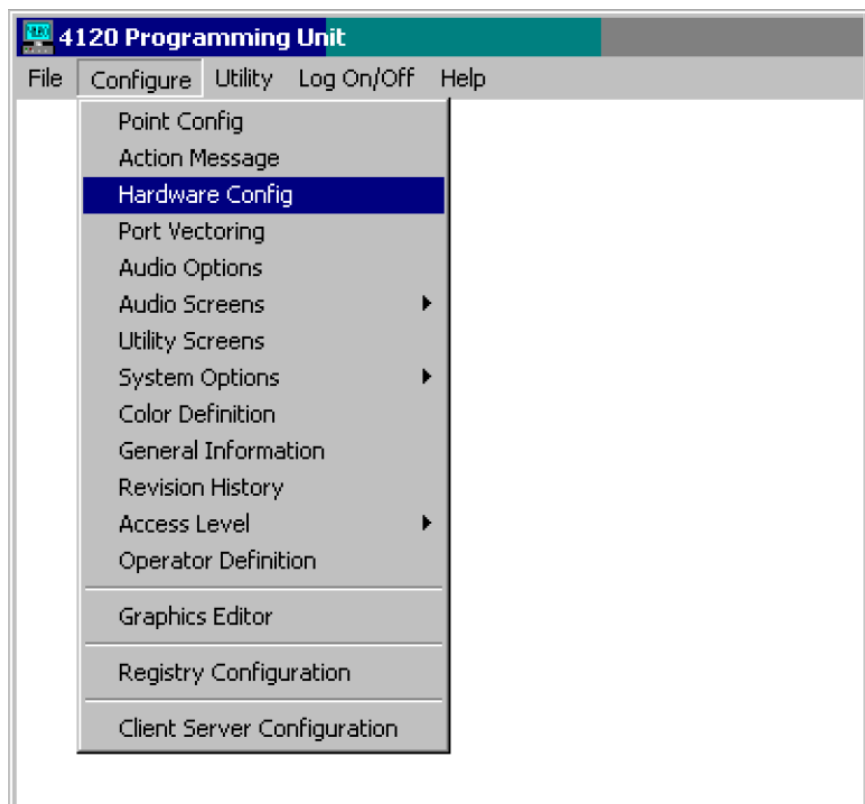

Figure 3-1. 4120 Programming Unit Screen
1. In Windows Program Manager, select the 4120 Programming icon. The system displays the 4120 Programming Unit screen shown in Figure 3-1.